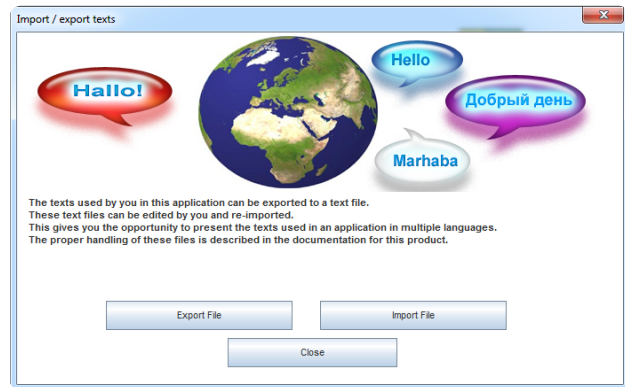

Fig. 3-17
- "Export file": All texts are stored in a text file with extension .lang. (Fig. 3-17)